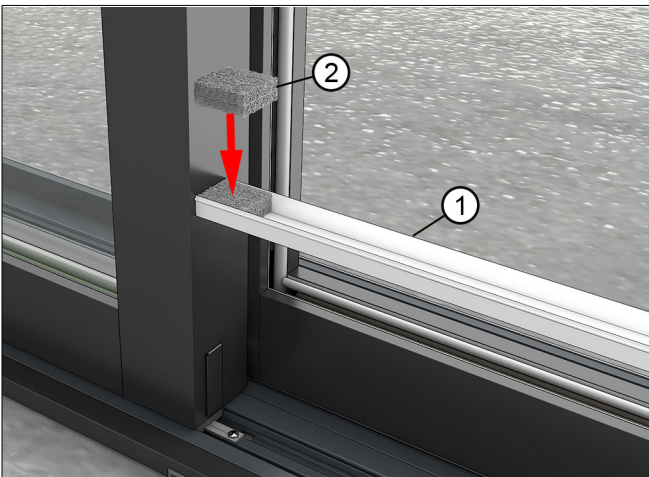

Figure 174 Uni-directional shown
1. Where a cover meets a panel, insert a sill drain filter in the end of the cover before installing it in the sill. See Figure 174.